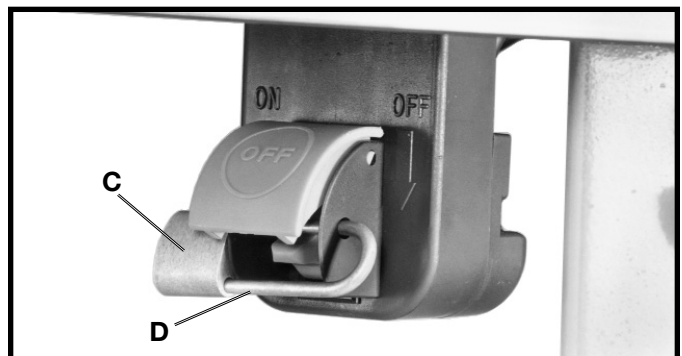

Fig. 43
IMPORTANT: When the machine is not in use, the switch should be locked in the “OFF” position to prevent unauthorized use, using a padlock (C) Fig. 43 with a 3/16" diameter shackle (D).